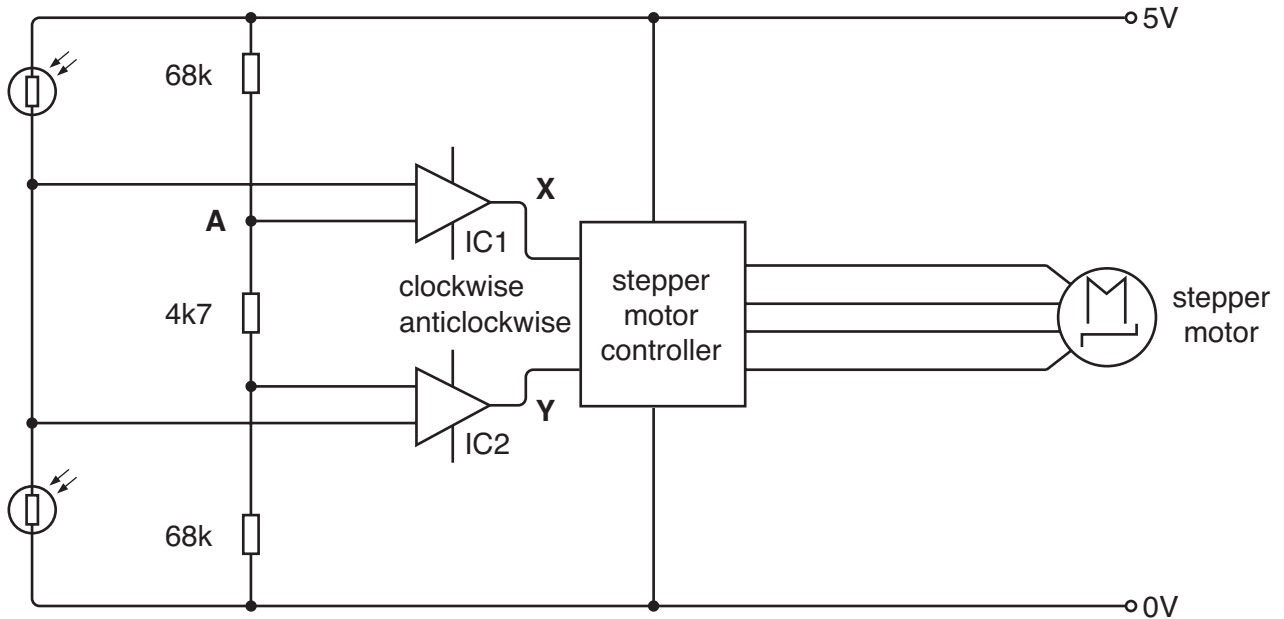

Fig. 6
- (c) Fig. 6 shows the circuit diagram of the turntable control system. The stepper motor controller drives the motor when one of the inputs goes high. Both operational amplifiers are single supply.